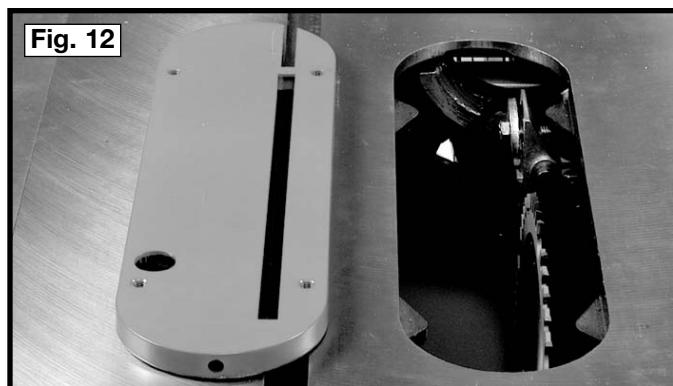

Fig. 12
1. Remove the table insert Fig. 12. Raise the saw arbor by turning the height adjusting handle on the front of the saw counter-clockwise as far as it will go. Then turn the angle-adjusting handle on the front of the saw clockwise as far as it will go. Remove the saw blade from the machine by following the instructions in section "CHANGING THE SAW BLADE".